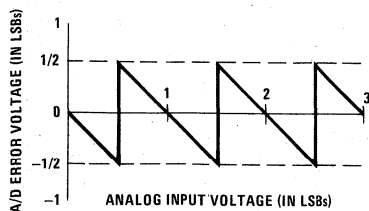

FIGURE 6. Error Plot of a Perfect A/D Showing Effects of Quantization Error
7.280 V_{DC}. These voltage values represent the center values of a perfect A/D converter. The input voltage has to change by $\pm 1/2$ LSB (± 20 mV), the "quantization uncertainty" of an A/D, to obtain an output digital code change. The effects of this quantization error have to be accounted for in the interpretation of the test results. A plot of this natural error source is shown in *Figure 6* where, for clarity, both the analog input voltage and the error voltage are normalized to LSBs.